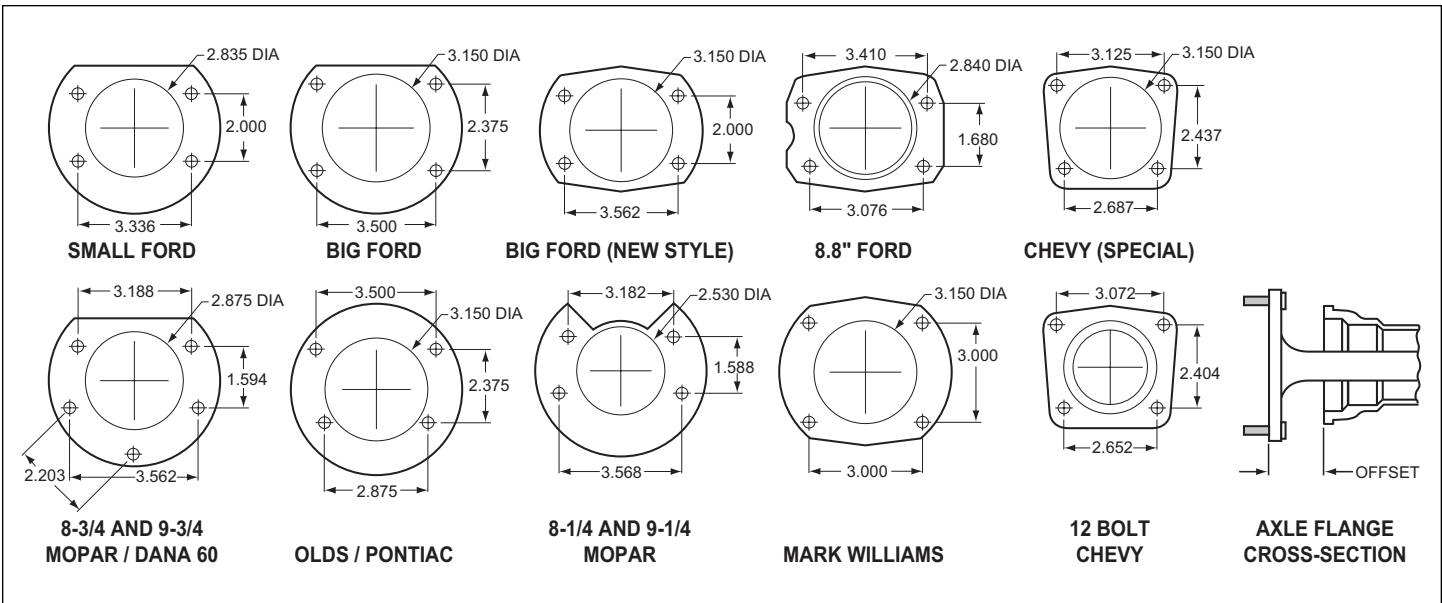

Figure 2. Rear Housing Flange Chart and Axle Flange / Offset Cross-Section
- Make sure to order the correct kit to fit the axle housing flange, not necessarily the rear end make. Many times after market manufacturers put a different make of axle housing flange on the stock rear end housing (see Figure 2, below). Example; Big Ford rear ends with Olds-Pontiac flanges, therefore, an Olds-Pontiac rear disc brake kit would be the correct kit to order. Also, indicate the correct offset when ordering (see Figure 2, lower right hand corner).